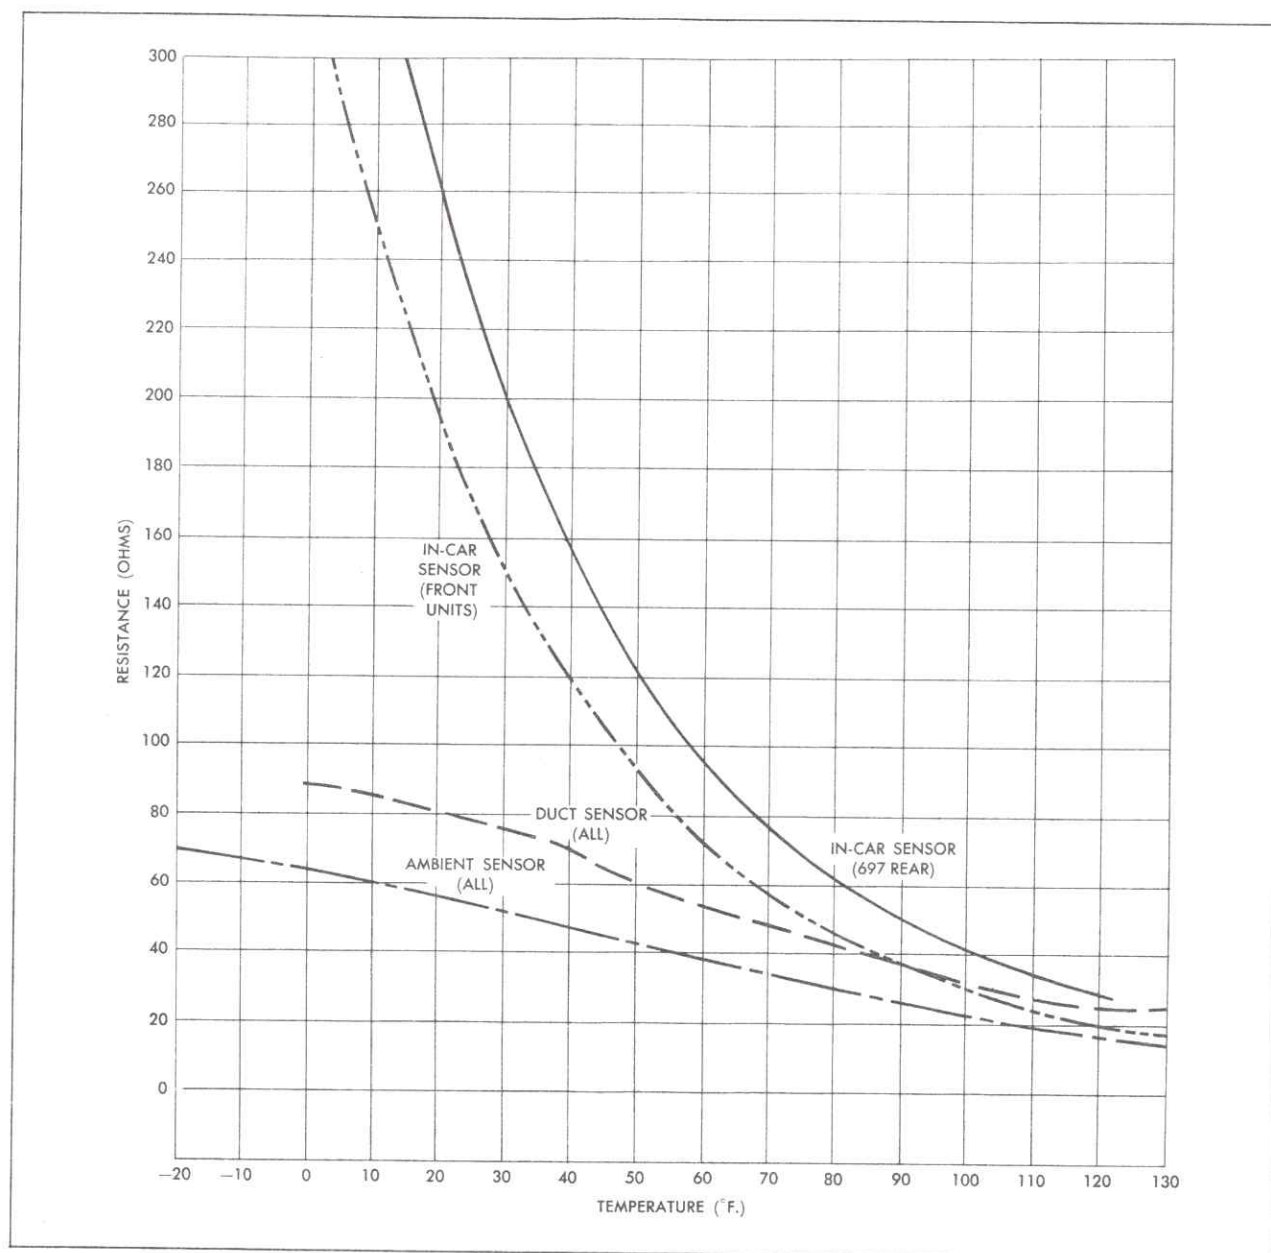

Fig. 1-24 Resistance Graph of Sensors
j. If an ohmmeter is available, measure resistance value of ambient sensor, duct sensor and then in-car sensor. Sensor resistance value should approximate resistance value given in Fig. 1-24. Replace any defective sensor located. If no defective sensor is found, check car wiring.
- h. If an ohmmeter is available, measure resistance value of ambient sensor, duct sensor and then in-car sensor. Sensor resistance value should approximate resistance value given in Fig. 1-24. Replace any defective sensor located. If no defective sensor is found, check car wiring.